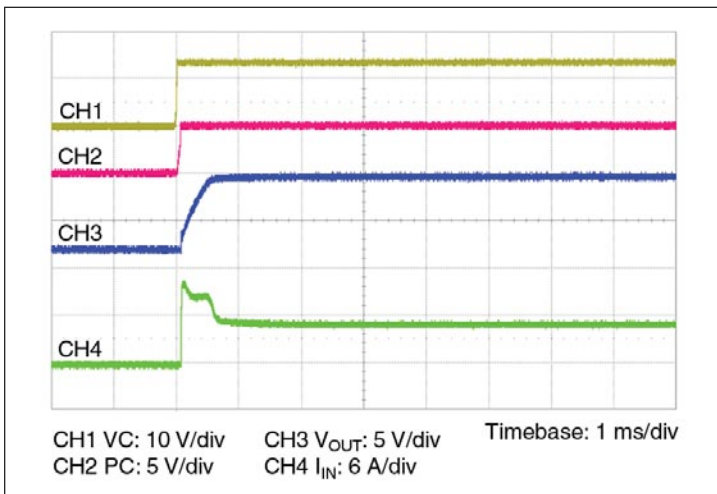

Figure 11 — Start up from application of VC;
- **Stand-alone operation (VC applied after V_{IN}):** In this case the VTM output will begin to rise upon the application of the VC voltage (See Figure 11). The Adaptive Soft Start Circuit (See Section 11) may vary the output rate of rise in order to limit the inrush current to its maximum level. When starting into high capacitance, or a short, the output current will be limited for a maximum of 1200 µsec. After this period, the Adaptive Soft Start Circuit will time out and the VTM module may shut down. No restart will be attempted until VC is re-applied or PC is toggled. The maximum output capacitance is limited to 2300 µF in this mode of operation to ensure a successful start.